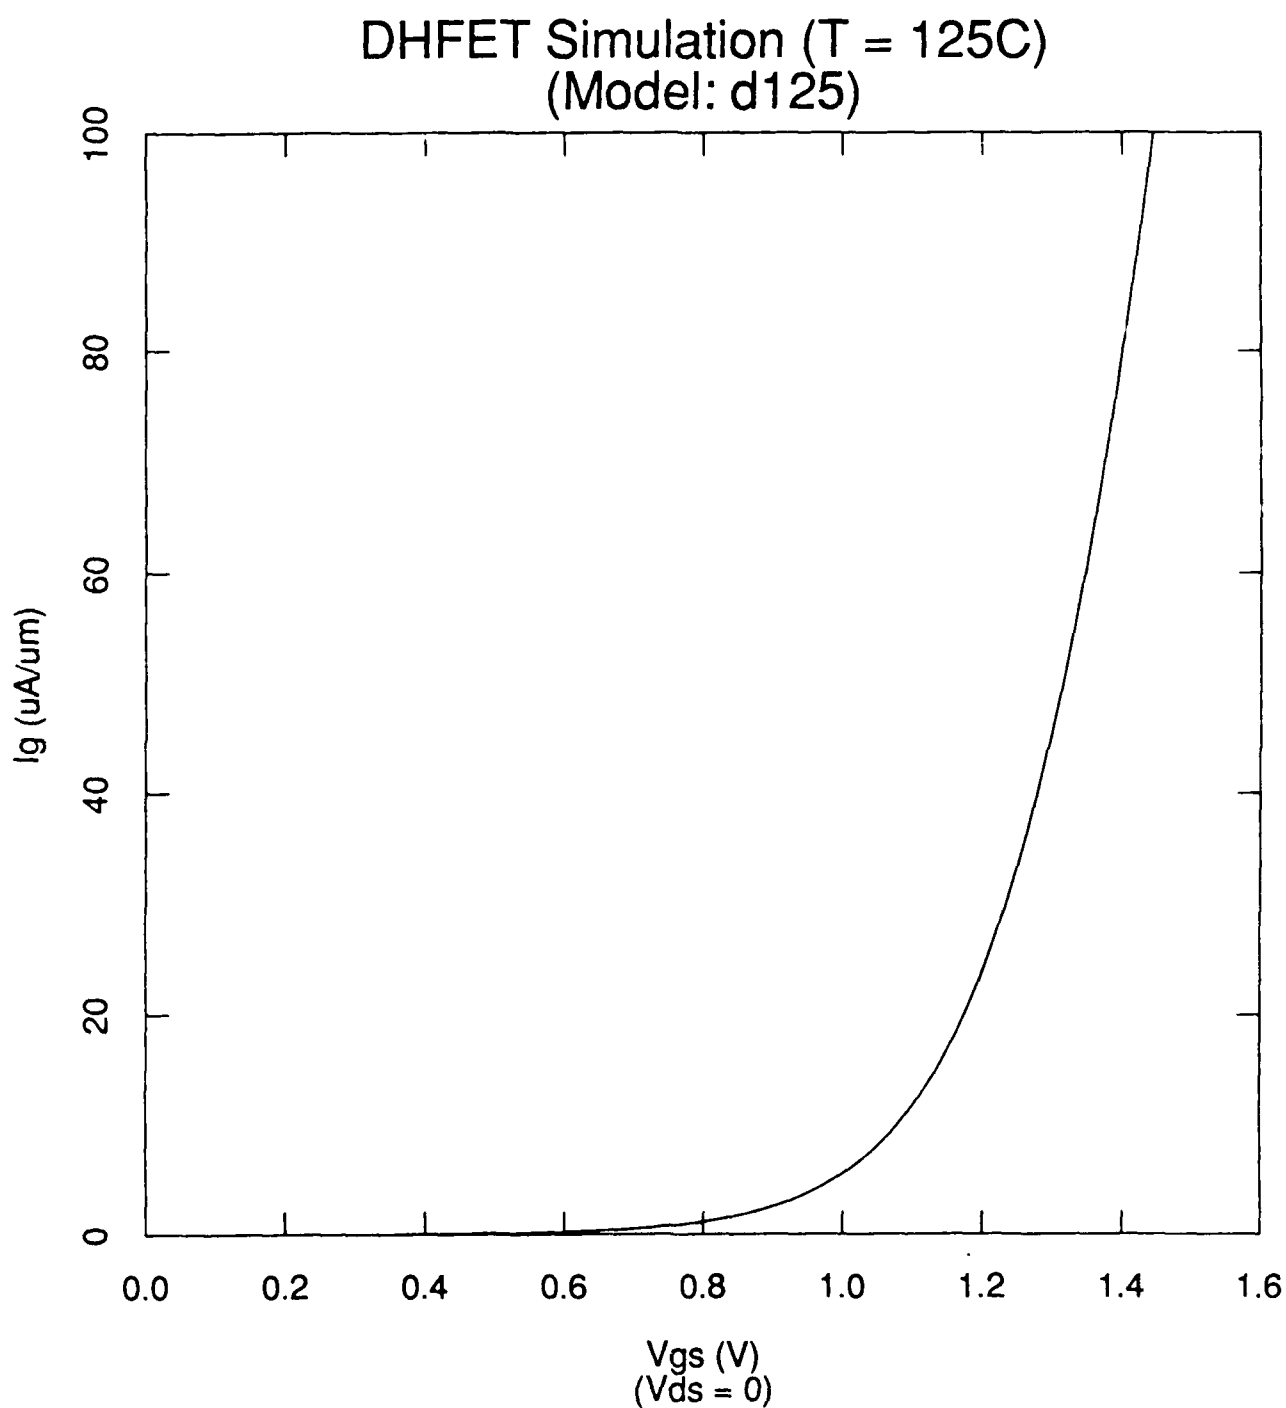

Figure 13. I_g vs. V_{gs} ($V_{ds} = 0$) for d125 DHFET Simulation at 125°C .
- Figure 13. I_g vs. V_{gs} ($V_{ds} = 0$) for d125 DHFET Simulation at 125C.